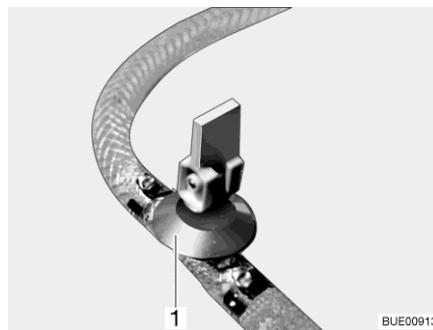

Fig. 147 Drain cock (with rocking lever)
- Close all drain cocks. In order to do this, position the rocking lever of the drain cock (Fig. 147,1) horizontally.